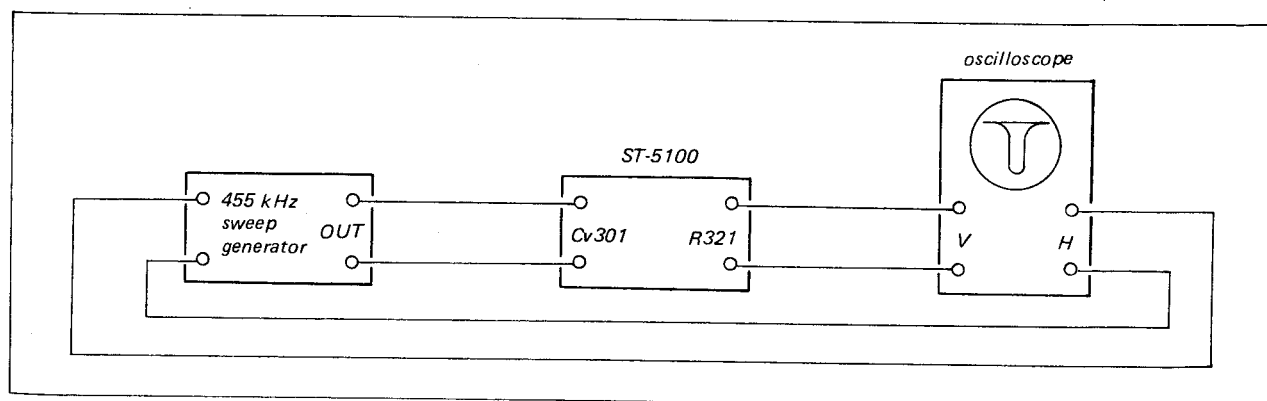

Fig. 3-13 A-m i-f strip alignment by sweep generator
3. With the equipment connected as shown in Fig. 3-13, adjust the oscilloscope controls and generator output to provide a visible indication.